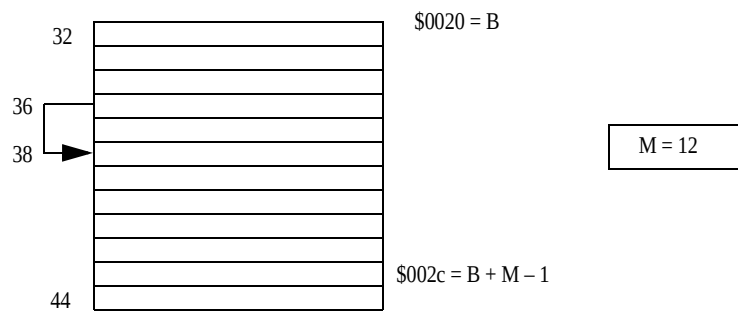

Figure 2-15. Modulo Addressing Example
Modulo addressing is illustrated in Figure 2-15. Addresses will be kept within the eleven addresses shown. For the instruction, `move.w (r0+$000e), d0`, the access will be made from \$26 (38), if the base address is \$20, the modulus is \$c, and $r0$ is \$24. The operation is $36 + 14 = 50 = 38$ in modulus 12, base address 32 ($50 - 44 + 32 = 38$).